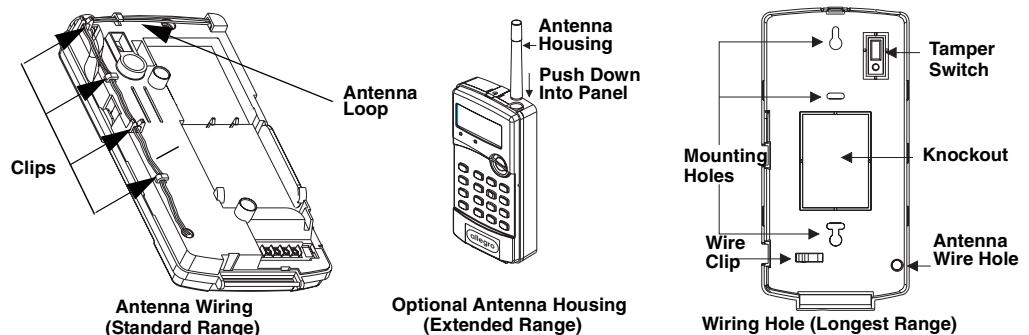

Figure 2. Antenna configurations
- a.Push the antenna housing down into the top right hole of the panel until it snaps into place (see Figure 2).
- a.When you mark the back mounting plate’s two mounting holes, also mark where the antenna hole is (see Figure 2 for antenna wire hole location).
- c.Remove the antenna loop (see Figure 2) from the panel cabinet clips and feed through the antenna hole and down into the wall.